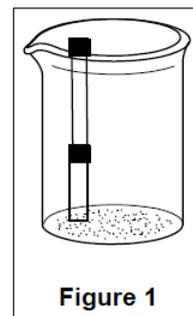
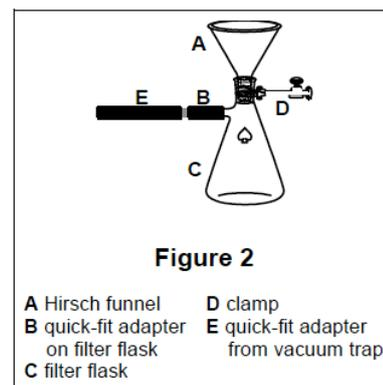

Figure 1
Figure 2
- Hold the apparatus by the RB flask and gently swirl its contents for 15 minutes. Set the apparatus in a large beaker (as shown in Figure 1) while setting up the equipment depicted in Figure 2.
- Using a metal clamp secure a 250 mL filter flask to the left most vertical support bar. Fit the filter flask with a Hirsch funnel equipped with a Hirsch funnel filter paper. Connect the quick-fit adapters of the vacuum trap and filter flask. Your apparatus should now resemble Figure 2.
- a. Using a metal clamp secure a 250 mL filter flask to the left most vertical support bar. Fit the filter flask with a Hirsch funnel equipped with a Hirsch funnel filter paper. Connect the quick-fit adapters of the vacuum trap and filter flask. Your apparatus should now resemble Figure 2.